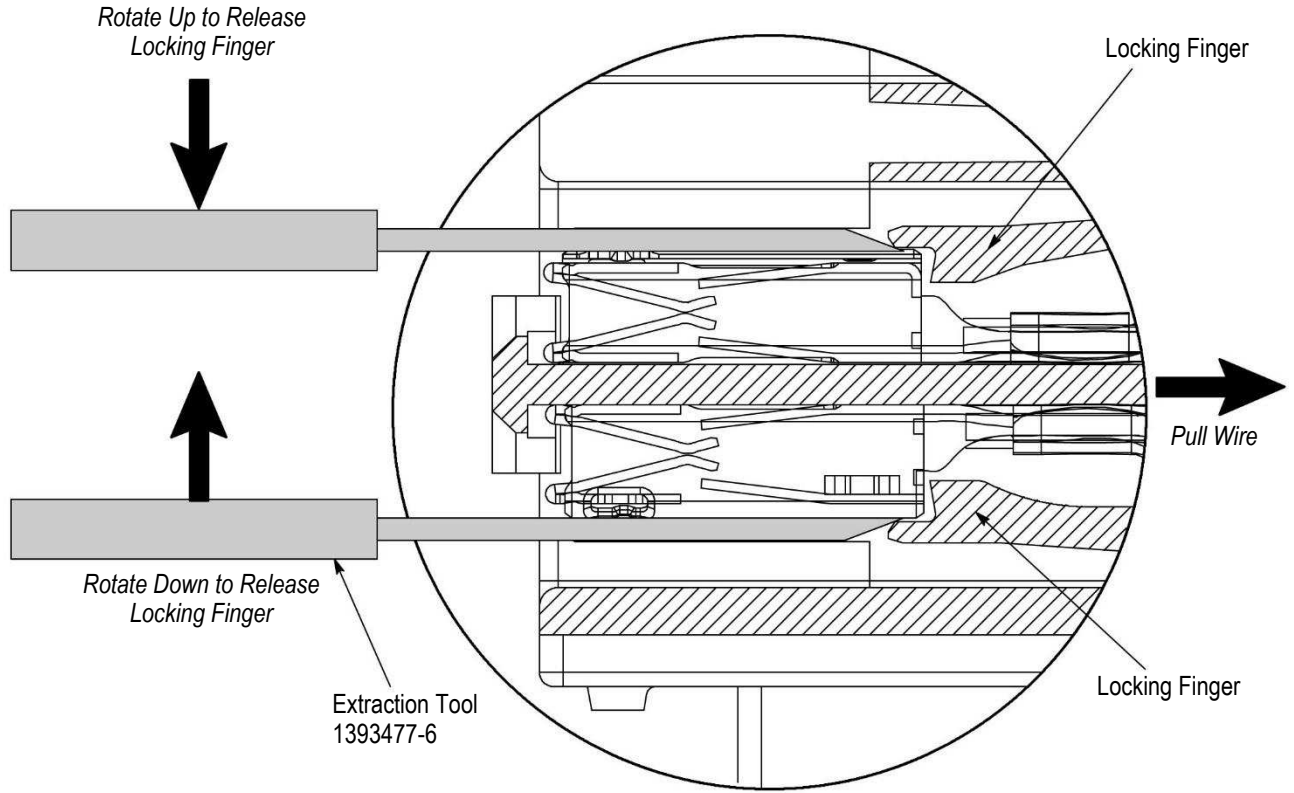

Figure 10
4. Once the TPA has been removed, insert Extraction Tool 1393477-6 into front of plug housing assembly in the correct position to unlatch the locking lance of the socket contact as shown in Figure 10.
5. Once the locking lance has been lifted up, simultaneously pull gently on the wire, from the rear, to remove contact and wire. See Figure 10.